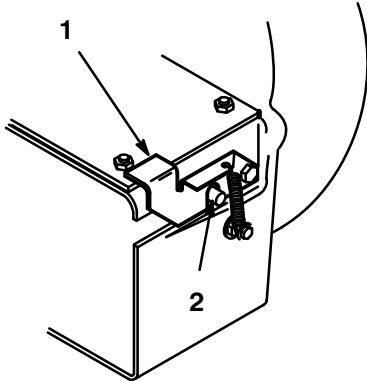

Figure 16
- With the belt installed, swing the blower toward the mower until the blower latch locks over the pin at the back of the mower (Fig. 16).